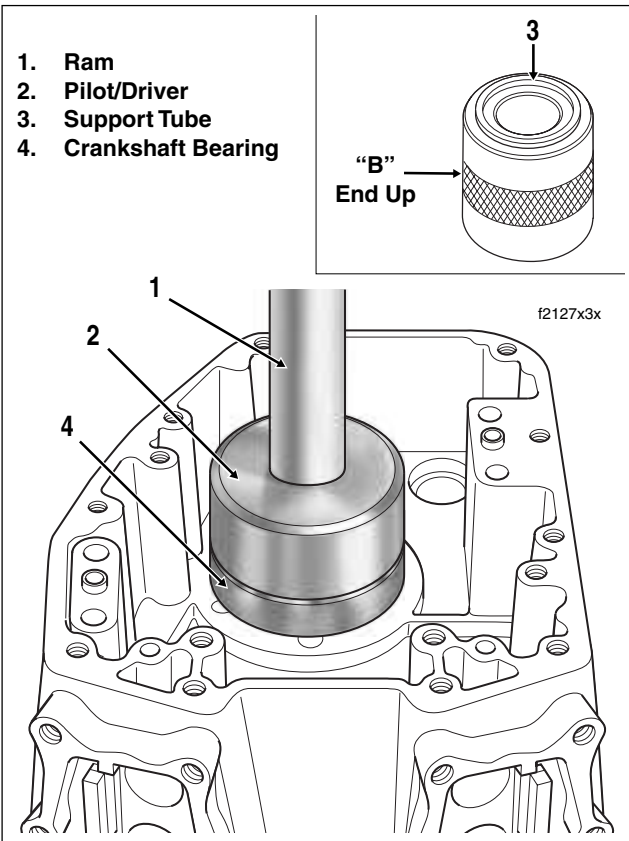

Figure 3-124. Install Crankshaft Bearing
7. Center pilot/driver under ram of press. Apply pressure to pilot/driver until resistance is felt and bearing bottoms in support tube. See Figure 3-124.